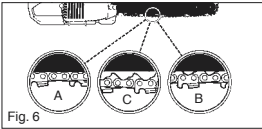

Fig. 6
**CAUTION:** If saw chain is TOO LOOSE or TOO TIGHT, the sprocket, bar, chain, and crankshaft bearings will wear more rapidly. Study Fig. 6 for information concerning correct cold tension (A), correct warm tension (B), and as a guide for when saw chain needs adjustment (C).